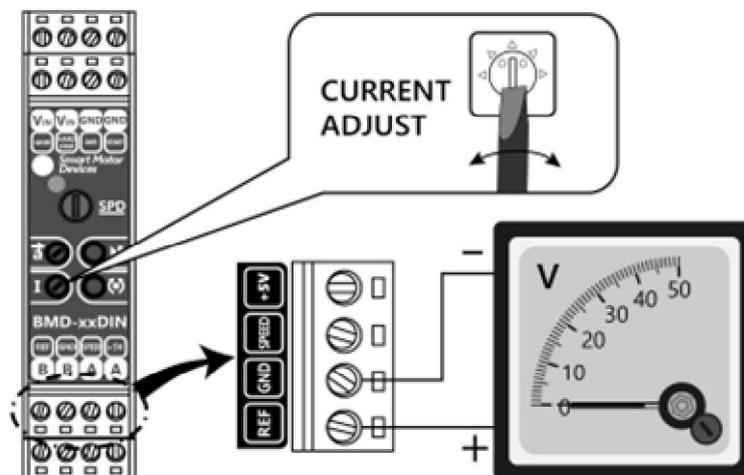

Fig. 3. Connection of a voltmeter for setting of a motor maximum current limit.
- 8) Using the potentiometer «CURRENT ADJUST», set the maximum motor current. Adjust the «CURRENT ADJUST» potentiometer and control the set current limit by a voltmeter, connected to «GND» and «Vref» terminals (fig.3). The motor current limitation can be calculated as: